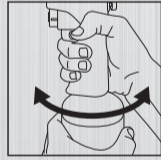

Fig. 1
3. Hold the torch and the gas cylinder upright. Turn the gas cylinder(Fig.1) counter-clockwise into the torch valve body until hand tight and attached securely to the torch connector. Check connection for leaks.
2. When torch is cool, turn the gas cylinder(Fig.1) clockwise to disconnect it. Slightly pull the ignition button to vent the remaining gas inside the torch.